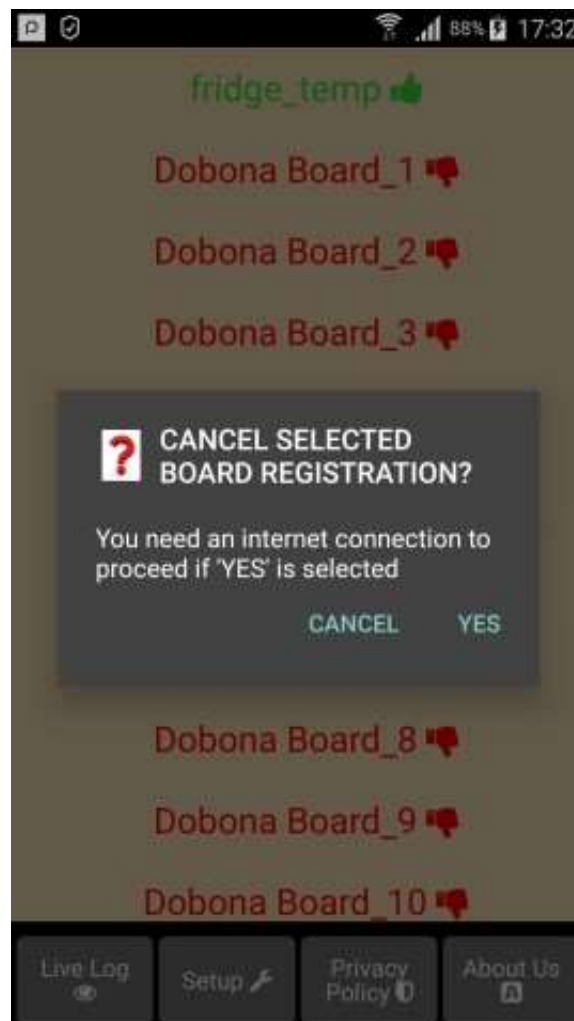

Fig 10.
- Press on the green line of the board name (fridge\_tank in our case) □ The below screen is displayed (Fig.10)